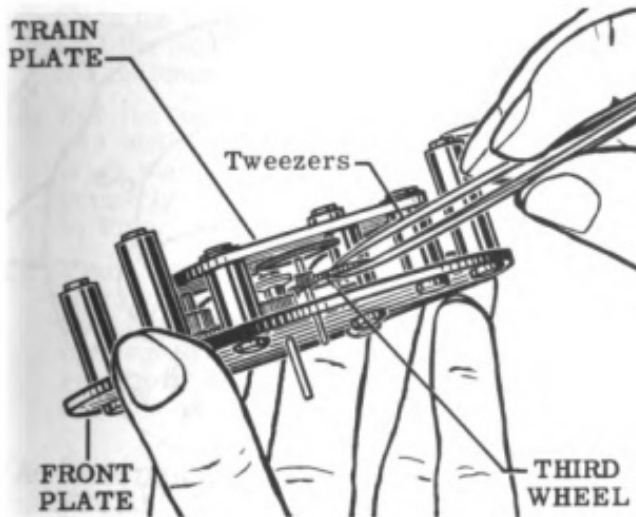

Figure 75
- Check the endshake of each of the train wheels and check the sideshake. Fig. 75 shows checking of the third wheel endshake.